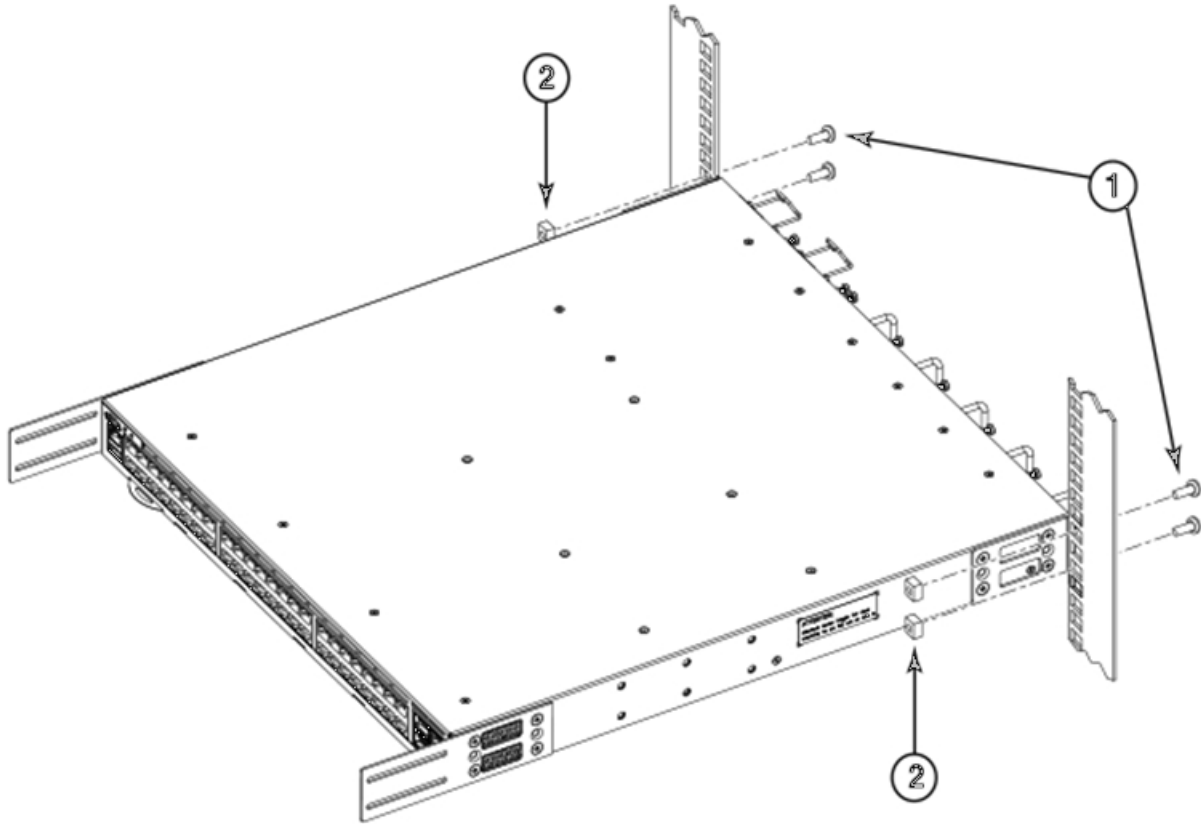

Figure 11. Positioning the device in the rack
1. Position the device in the rack, as shown in Figure 11 on page 25, providing temporary support under the device until the rail kit is secured to the rack.